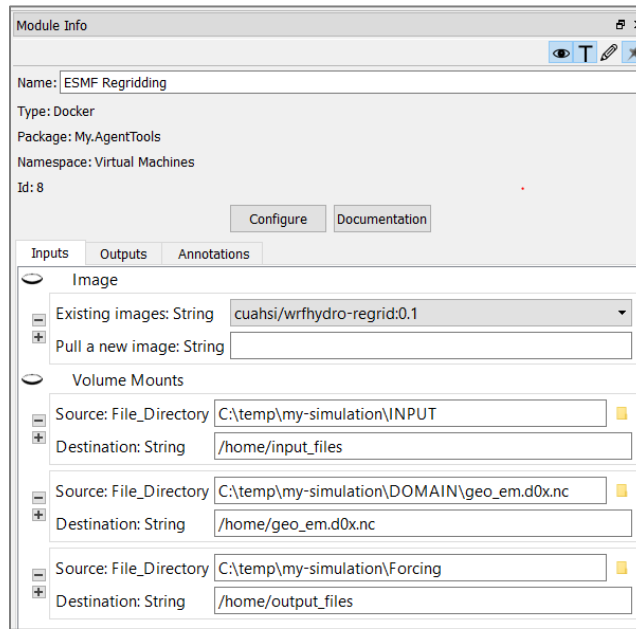

Figure 89. The input panel of ESMF Regridding module box
- Inputs (shown in Figure 89):